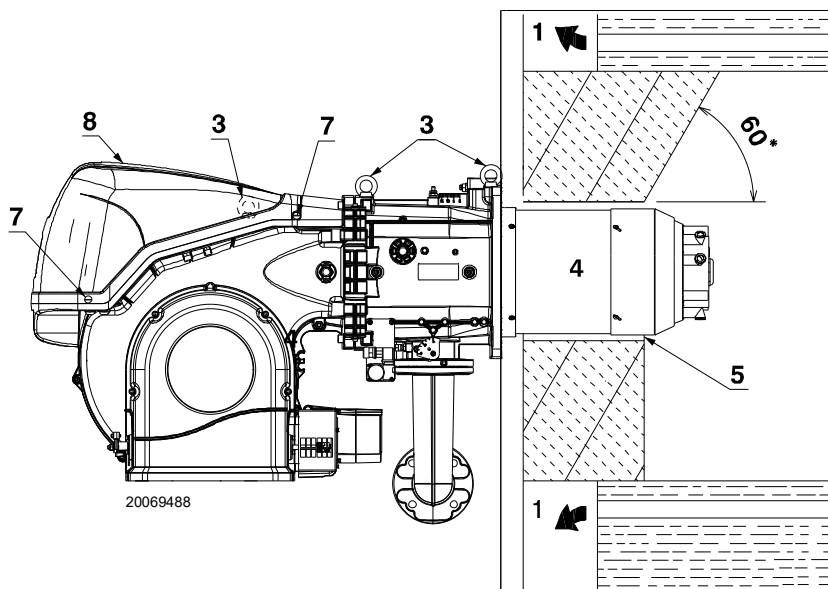

Fig. 13
Prepare a suitable lifting system using the rings 3)(Fig. 13), after removing the fixing screws 7) of the casing 8).
- Fit the heat insulation supplied onto the blast tube 4)(Fig. 13).